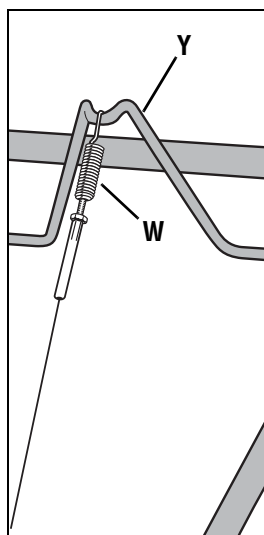

Fig. 2-6: Attach forward clutch cable spring to forward clutch bail.
a. With the Forward Clutch Bail (Y, Fig. 2-6) in an open (released) position, measure the length of the cable spring (W) from the outermost coil to the outermost coil.